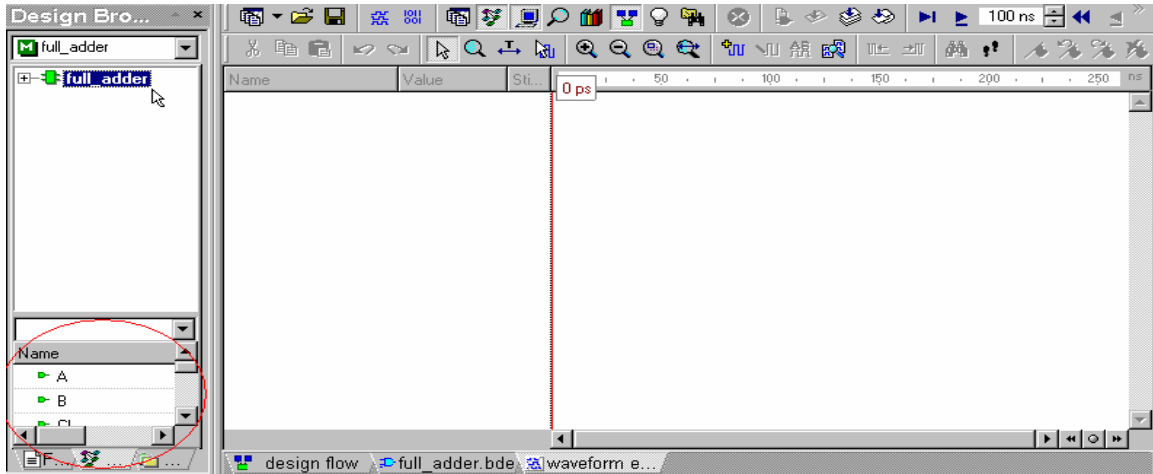

Figure 29
5. Click the file name in the top window in the Design Browser under the Structures tab. Notice in Figure 29 how the signals and wires (Nets) appear in the bottom window of the Design Browser.